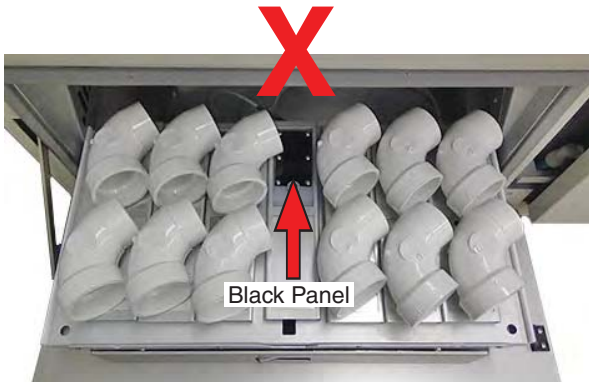

Figure 11.4c: Do not cover or shade black panel.
- Covering the black panel with specimens or shadow lowers its temperature and can cause the heater to stay on too long, overheating the specimens (Figure 11.4c).